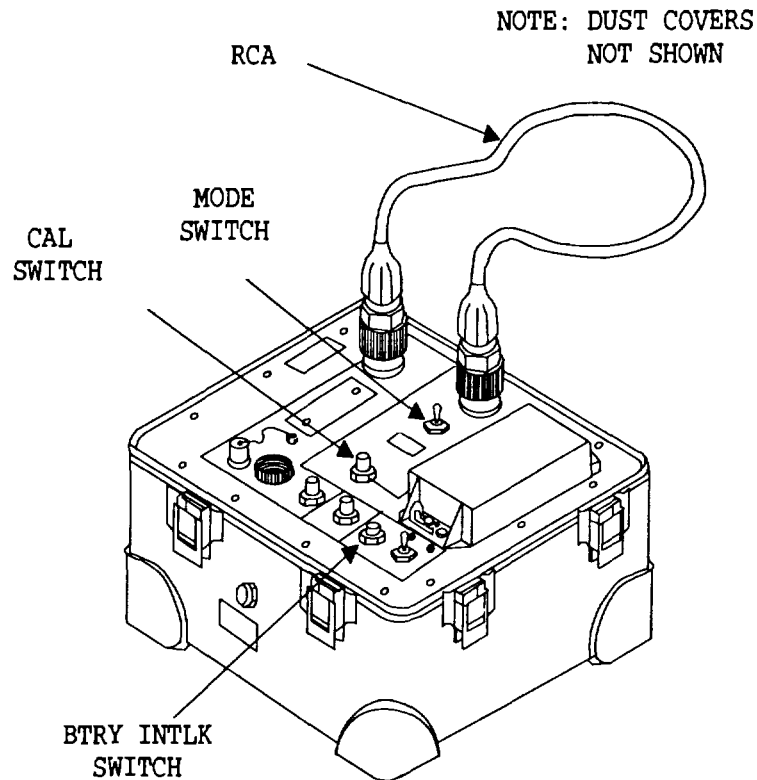

FIGURE 2-3. FTF Test Setup.
- (5) Remove dust covers from RCA.
- (6) Connect RCA to FTF and MCF FOBCs. The setup for the FTF test is shown in Fig. 2-3.
- (7) Set POWER switch to ON.
- (8) Set MODE switch on FTS to REL. OSM display should read  $00.0 \pm 0.5$  dB.
- (9) Press and hold BTRY INTLK switch until OSM display is blank. Release switch.
- (10) Remove RCA connector at FTF FOBC far enough to break light path.
(11) Reconnect RCA to FTF FOBC. OSM display should read other than zero.
(12) Press and release CAL switch. The OSM display should read  $00.0 \pm 0.5$  dB.